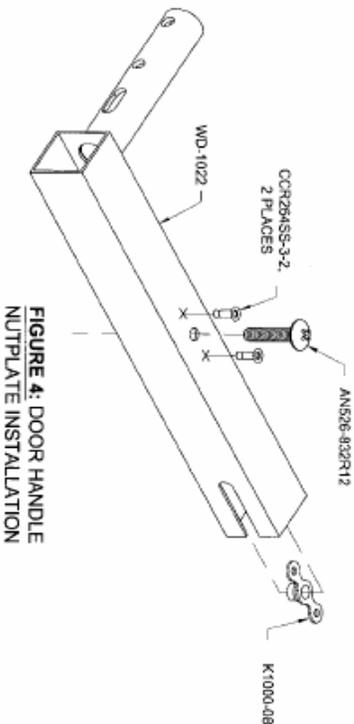

FIGURE 4: DOOR HANDLE NUTPLATE INSTALLATION
Step 4: Install a nutplate on the WD-1022 Door Handle Assembly as shown in Figure 4. Install a nutplate on the remaining door handle assembly on the side opposite that shown in Figure 4.